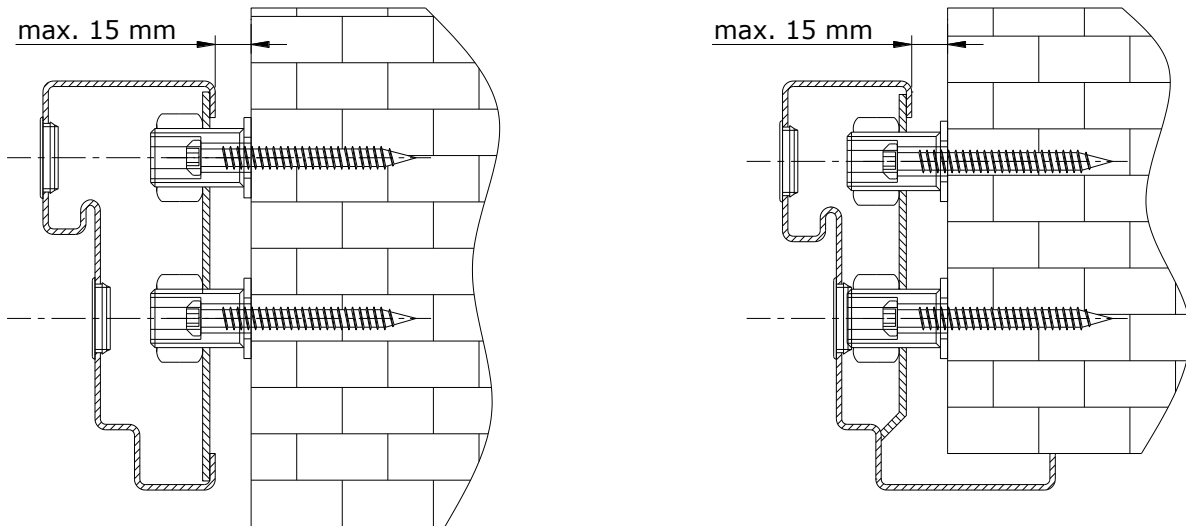

Figure 7.
6. Level the hinge side of the frame and start fixing the frame from fixing apertures 1, 2 and 3 (figure 7.).